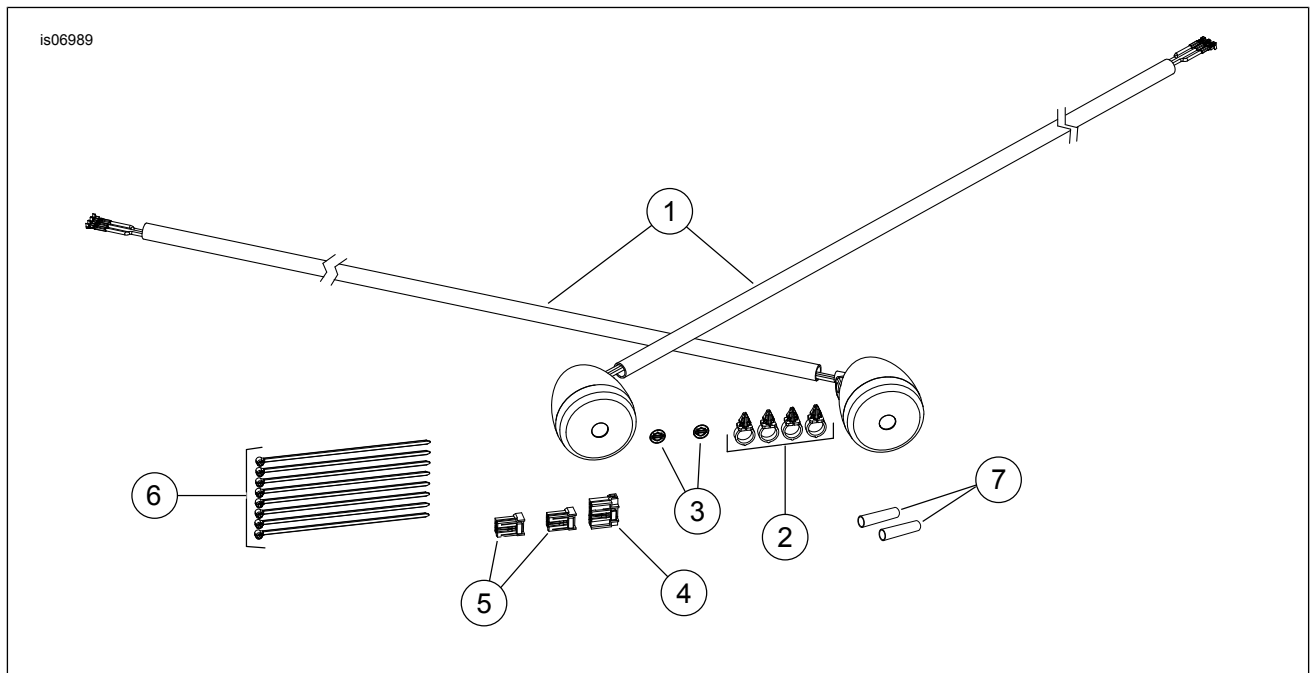

Figure 2. Service Parts: LED Front Turn Signals
See Figure 2 and Table 1.
1. **ALL models:** See Figure 2. Obtain the **new** left- and right-front turn signal lamps from the kit.